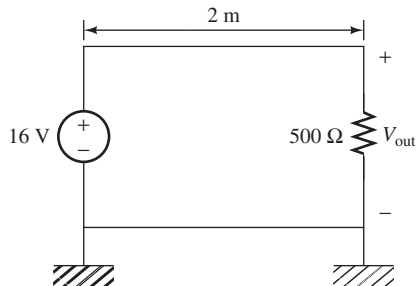

FIGURE P11.46 Circuit for Problem 11.46.
- 11.46** (A)* Determine the voltage output, V_{out} , shown in Figure P11.46 if the ground of the voltage source and ground of the load are connected. The material of the wire that connects the devices in the circuit is copper with the resistance per length of $0.54 \Omega/\text{m}$. If the connection between both grounds is cut, what is the voltage output, V_{out} ? (Provide the solution up to two decimal points.)